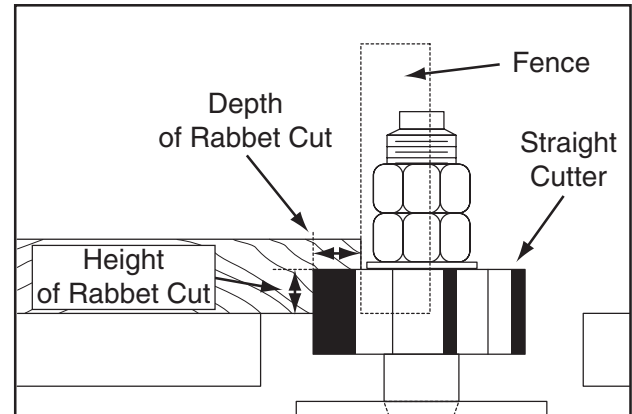

Figure 32. Fence and straight cutter setup for a rabbet cut.
Your shaper can perform rabbet cuts by using a straight cutter and properly adjusting the spindle height and the fences to produce the desired L-shape cut in the workpiece (see **Figure 32**).
2. Install a straight cutter and raise it above the table a distance equal to the height of the rabbet cut (see **Figure 32**).
3. Adjust the fence boards even with one another so that the cutter is exposed to the workpiece by a distance equal to the depth of the rabbet cut (see **Figure 32**).